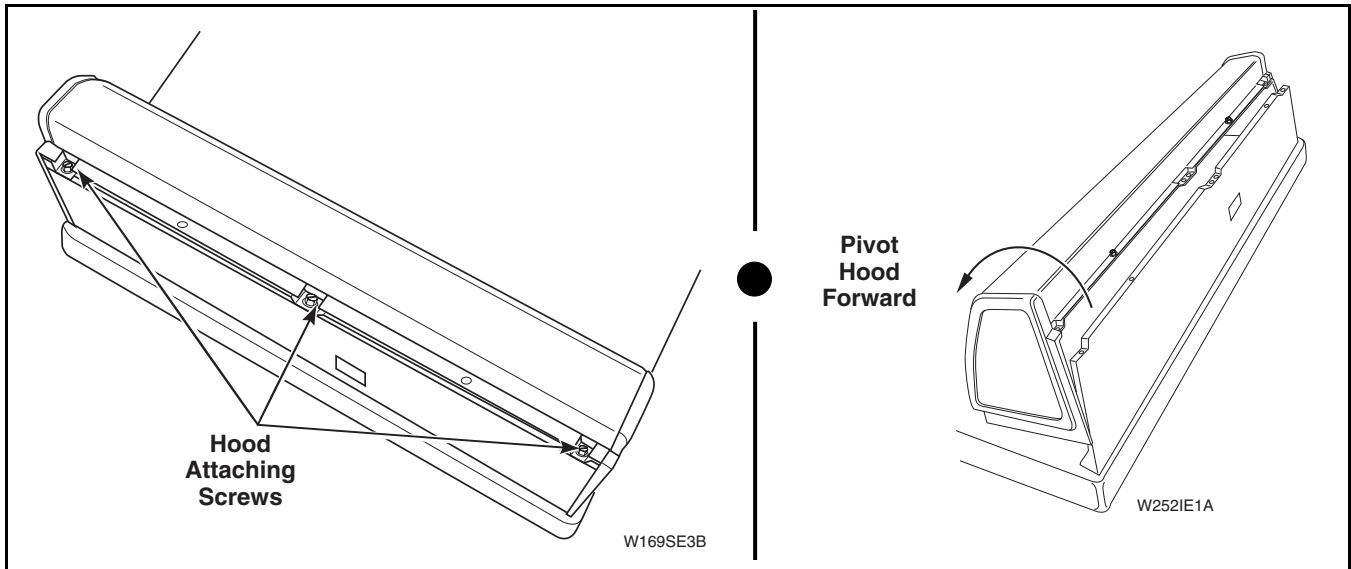

Figure 7
- a. Remove three screws holding rear of hood assembly to control hood rear panel. Refer to *Figure 7*.
- b. Pivot hood assembly forward on cabinet top. Refer to *Figure 7*.
- Remove three screws holding rear of hood assembly to control hood rear panel. Refer to *Figure 7*.
- Pivot hood assembly forward on cabinet top. Refer to *Figure 7*.